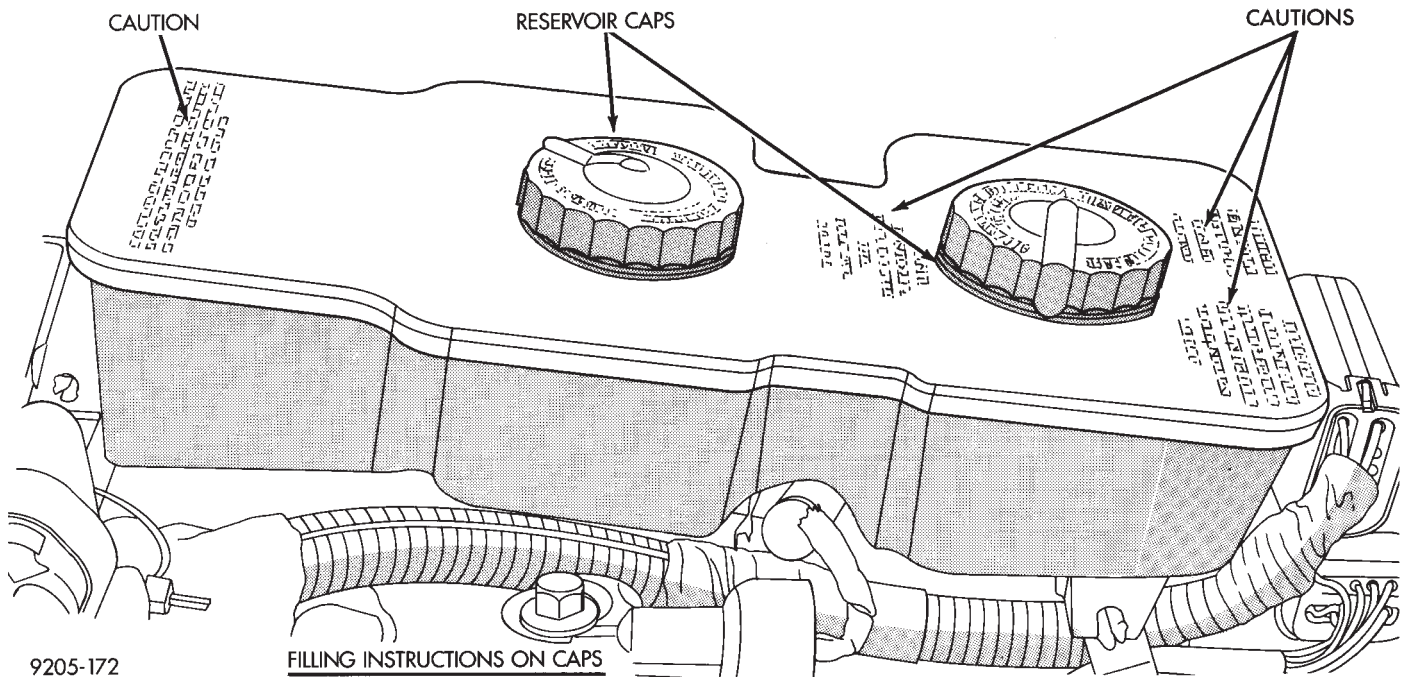

Fig. 6 Master Cylinder Fluid Level (W/ABS)
(1) With the ignition off, de-pressurize the hydraulic accumulator by applying the brake pedal approximately 40 times, using a pedal force of approximately 220 N (50 lbs.). A noticeable change in pedal feel will occur when the accumulator is de-pressurized. Continue to apply the pedal several times after this change in pedal feel occurs to insure that the brake system is fully de-pressurized.
(2) Thoroughly clean both reservoir caps and surrounding area, (Fig. 6) before removing caps. This is to avoid getting dirt into the reservoir.
(3) Inspect the fluid level, see instructions on top of reservoir. (TO TOP OF WHITE SCREEN ON FRONT FILTER/STRAINER.)